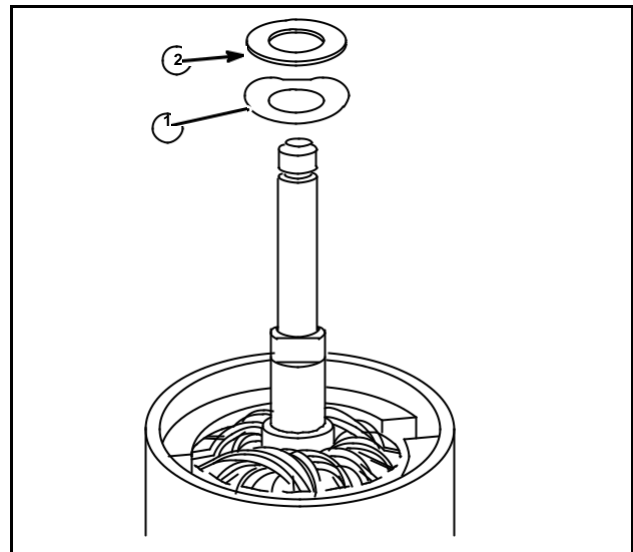

Fig. 73
5. Place spring washer (1) on armature shaft with concave side up, Fig. 73. Then place flat washer (2) on shaft.